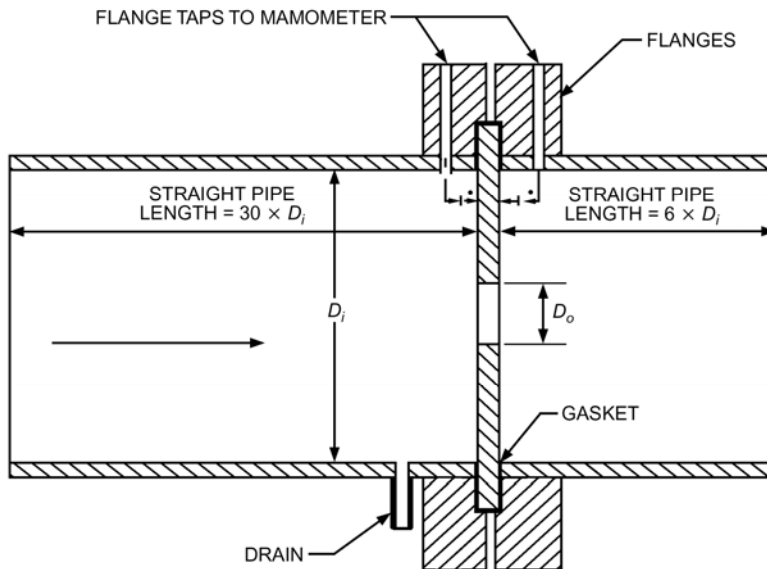

Figure A1 Orifice assembly.
- 13** **Figure A1.** Replace the current figure with the one shown below.